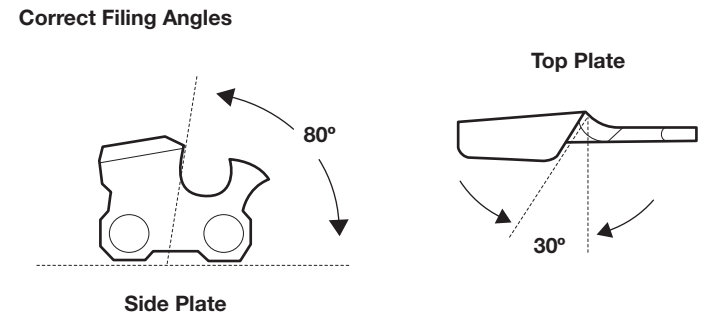

Fig. 38
- Apply a few firm strokes to each tooth. When filed correctly, the top plate will be at a 30° angle and the side plate will be at an 80° angle (Fig. 38). Using the correct file and file holder will automatically produce the correct angles.